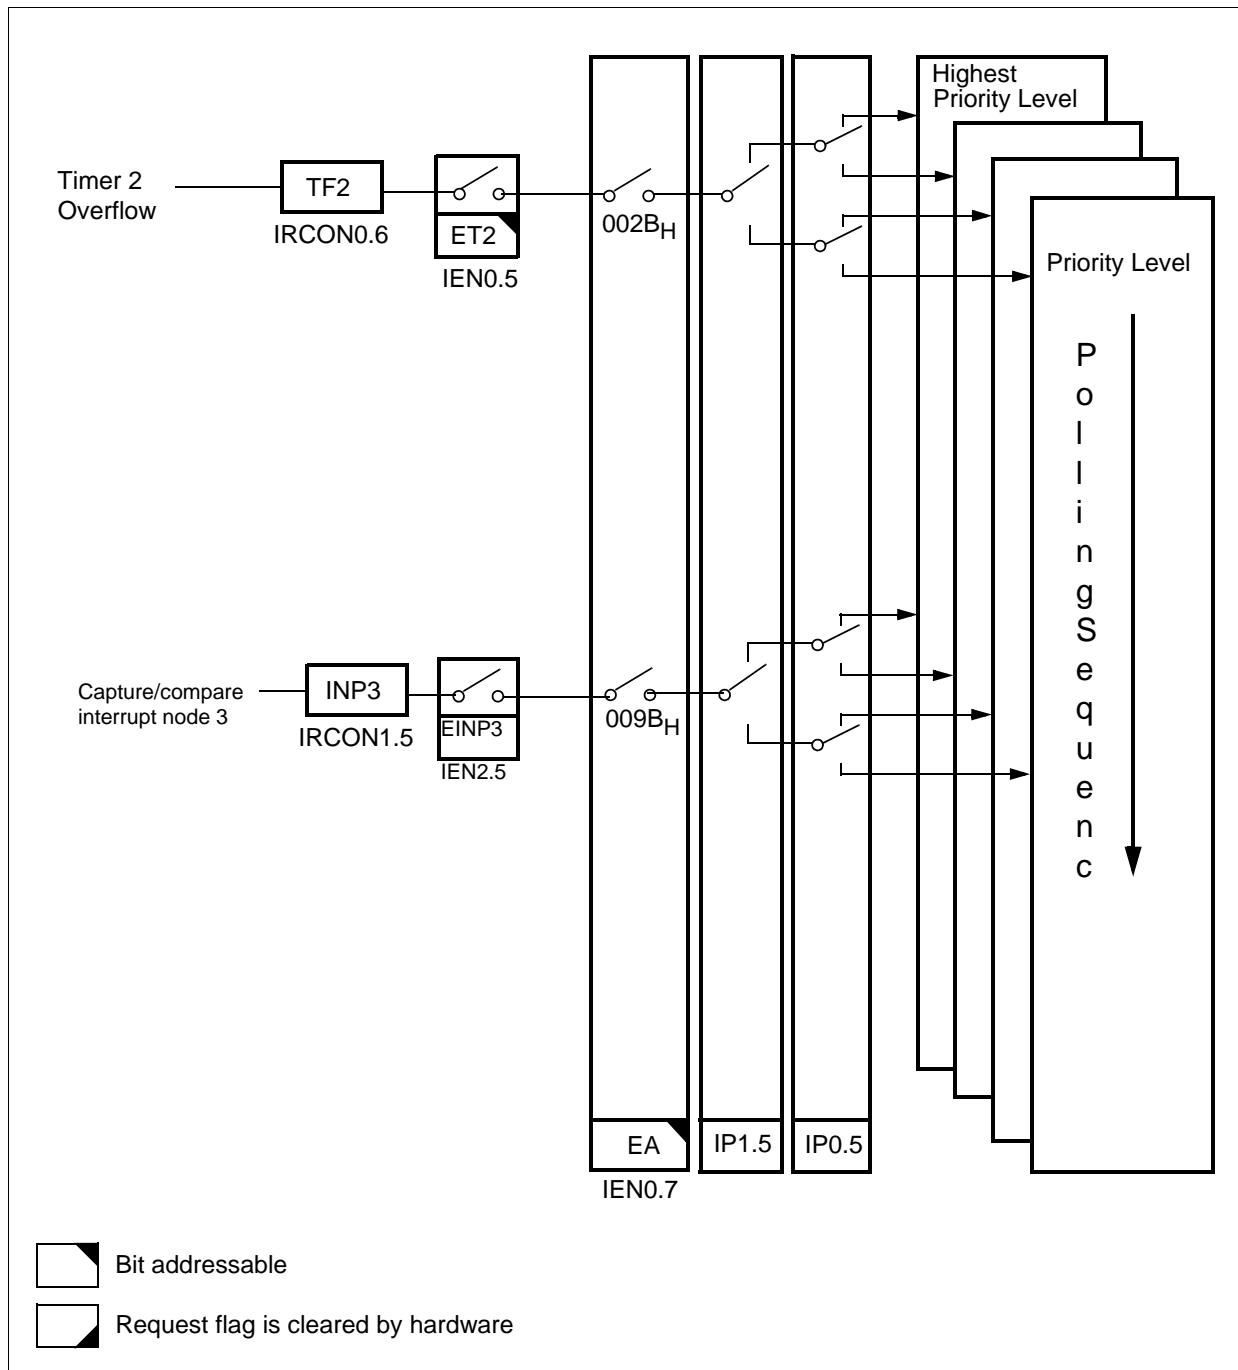

Figure 7-6 Interrupt Structure, Overview Part 5
**Figure 7-1** to **Figure 7-6** give a general overview of the interrupt sources and illustrate the request and control flags which are described in the next sections.